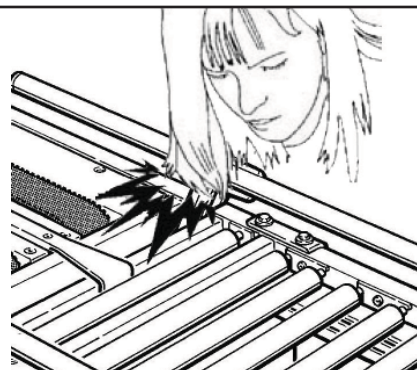

Figure 3-8
**IMPORTANT!** Drive belts. Never work on the machine with loose hair or loose garments such as scarfs, ties or sleeves. Although protected, the drive belts may be dangerous (**Figure 3-8**).